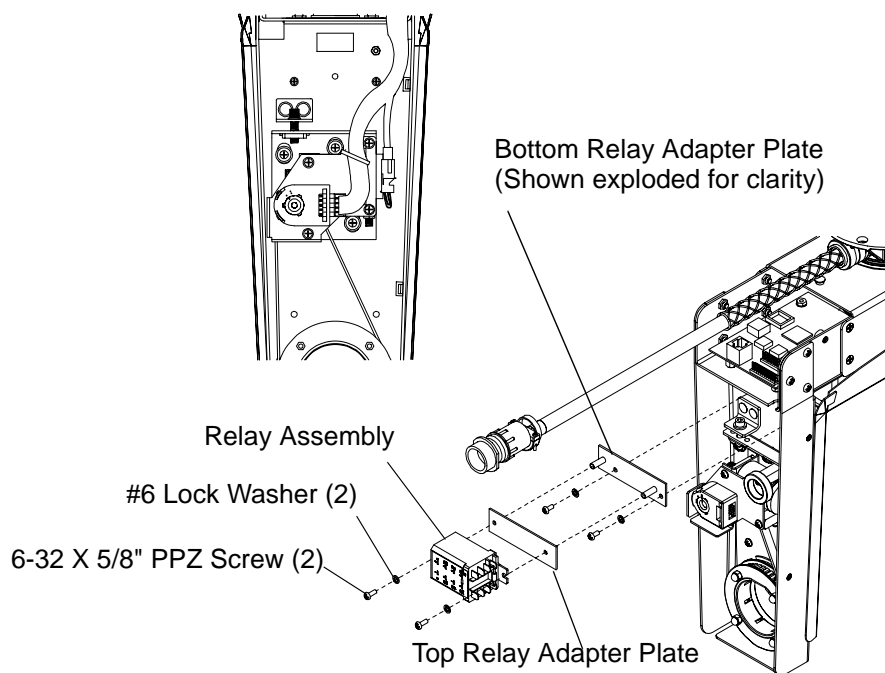

Figure 2-29: VL6B/VL6C Relay Replacement
- Step 3. At relay assembly, disconnect all wires. Figure 2-29.